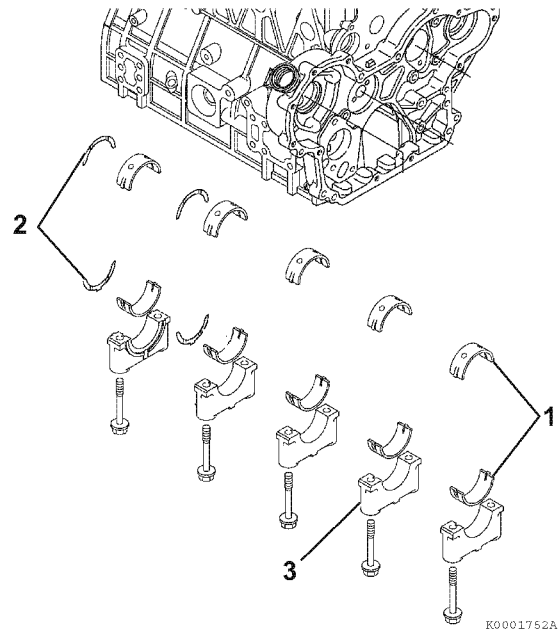

Figure 6-60
4. Remove the main bearing caps (**Figure 6-60, (3)**). Be sure to note the markings on the main bearing caps, or mark them yourself, so they can be reinstalled in the same order as they were removed. Do not remove the bearing inserts at this time.
7. Remove the bearing inserts (**Figure 6-60, (1)**) and thrust bearings (**Figure 6-60, (2)**).